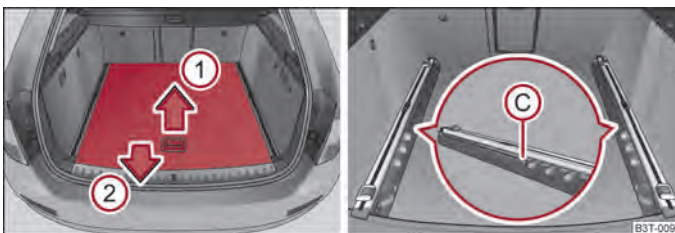
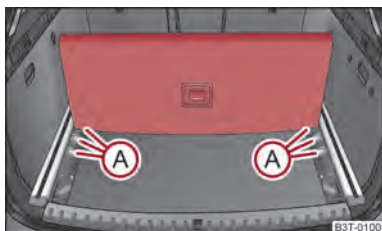

Fig. 76 Luggage compartment: partially pulling out the variable loading floor
Fig. 77 Divide the luggage compartment
- Grasp the rear part of the variable floor at the handle, raise it slightly in direction of arrow ① ⇒ fig. 76 and pull it over the bumper in direction of arrow ② until it engages in the opening ③ ⇒ fig. 76.
- Grasp the part of the floor at the handle, raise it slightly in direction of arrow ① and push it forwards up to the stop in order to push in the variable loading floor.
- Grasp the rear part of the floor at the handle, raise it in direction of arrow ① ⇒ fig. 76 and insert the rear edge in one of the openings (A) ⇒ fig. 77.